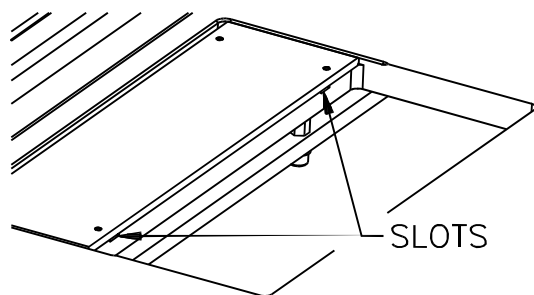

Figure 4-7. Slots Under Cut Plates
2. Switch off (O) main power at the front of the machine and lock out the main power disconnect switch as described in section 1.5 Power Lockout Procedure on page 1-4.
5. Lift and wiggle the edge of the cut plate until it slides off the four pins in the table. Alternatively, slide the end of a screwdriver between the slot in the table and the cut plate. Rock the screwdriver. Alternate between each of the two slots until the cut plate is free. Figure 4-7 shows the location of the slots.